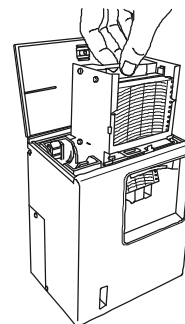

Fig. 2
2. Pull out the evaporating tray. (Fig.2)
2. Pull the cartridge up after opening the top lid. The lid can be opened by turning the knob counterclockwise. See Fig. 2.
3. Press both sides of the pen arm as indicated by the arrows to open the head clamp at A and B. (See to Fig. 2 illustration 1)
4. Position the ink pen so that the guide pins fit into the guide holes on the pen arm. (See to Fig. 2 illustration 2)
5. Press the two sides of the head clamp as indicated by the arrows to secure the ink pen. (See to Fig. 2 illustration 3) From the side view, the cartridge should fit perfectly on the arm. Confirm that the pen arm is attached to both sides of the ink pen.